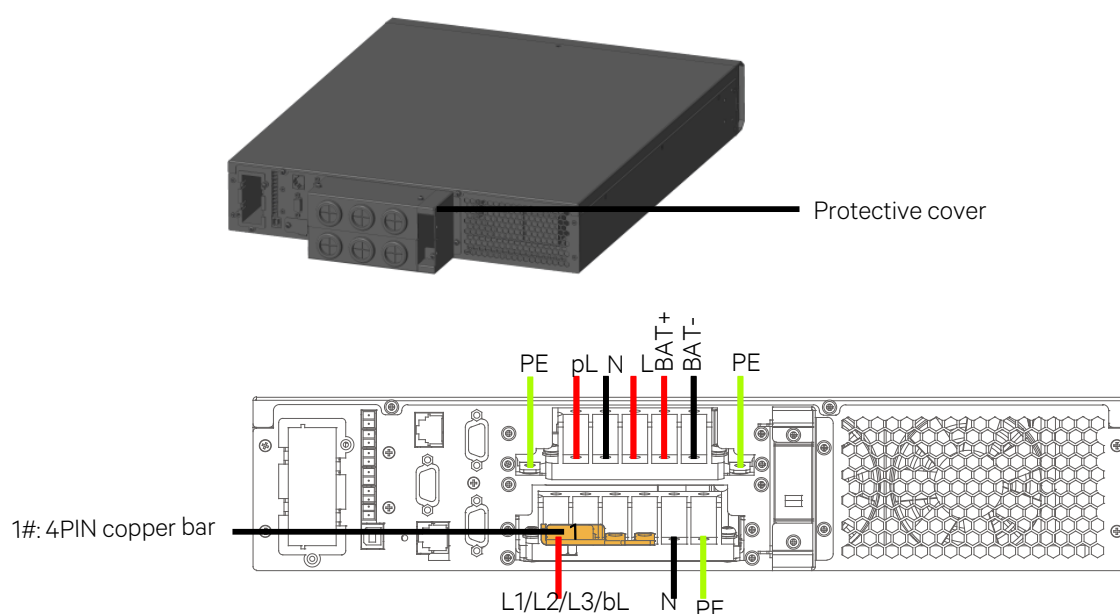

Figure 2-19 Wiring diagram (1-in 1-out, common input configuration)
2. Remove the protective cover of the I/O terminal block as shown in Figure 2-19.
3. Pass the mains input live wire through the cable hole of the junction box, and connect to the shorting copper bar 1 installed before delivery. Pass the mains input N line and input PE line through the cable holes, and connect them to the input N line terminal (N), input PE terminal (PE) respectively, then fasten the fixing screws. See Figure 2-19.
4. As shown in Figure 2-19, pass the output live wire, output N line and output PE line through the cable entry holes of the junction box, and connect them to the output live wire terminal (L), output N line terminal (N) and output PE terminal (PE) respectively, then fasten the fixing screws.